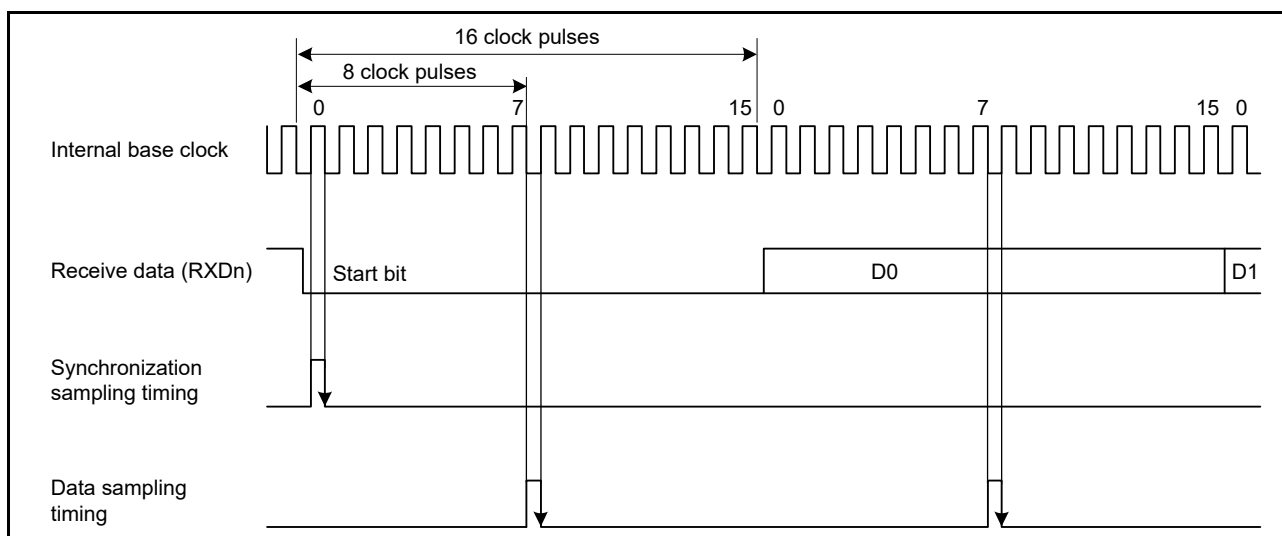

Figure 29.3 Receive data sampling timing in asynchronous mode
Because receive data is sampled on the rising edge of the 8th pulse*1 of the base clock, data is latched at the middle of each bit, as shown in Figure 29.3. The reception margin in asynchronous mode is determined by the following formula (1):